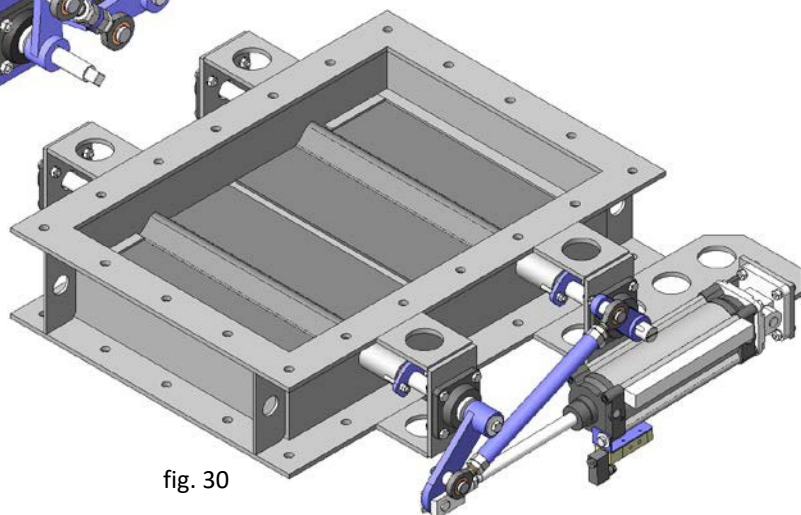

fig. 30
- Linear pneumatic cylinder (fig. 30) *